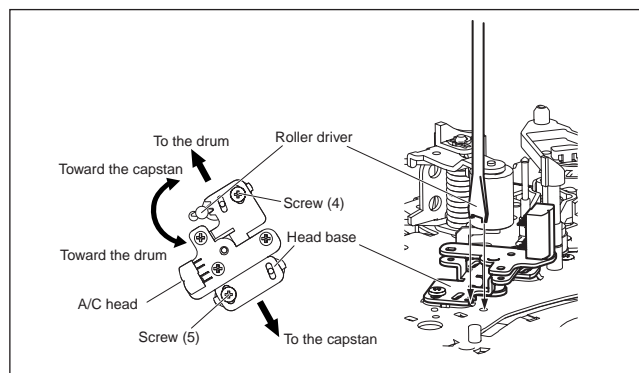

Fig. 3-2-4a
- (1) Play back the alignment tape (A1).
- (2) Apply the external trigger signal to D.FF (E), to observe the V.PB FM waveform at the measuring point (D).
- (3) Set the VCR to the manual tracking mode.
- (4) Loosen the screws (4) and (5), then set the Roller driver to the innermost projected part of the A/C head. (See Fig. 3-2-4a.)
- (5) Rotate the roller driver so that the A/C head comes closest to the capstan. From there, move the A/C head back gradually toward the drum until the point where the FM waveform is maximized for the second time, and then tighten the screws (4) and (5) temporarily.
- (6) Play an alignment tape (A2) and set to the manual-tracking mode.
- (7) Fine-adjust A/C head base position to maximize the FM waveform, and then tighten the screws (4) and (5) firmly.
- (8) Play alignment tapes (A1) and (A2) and confirm that the FM waveforms are maximized when the tracking is at the center position.